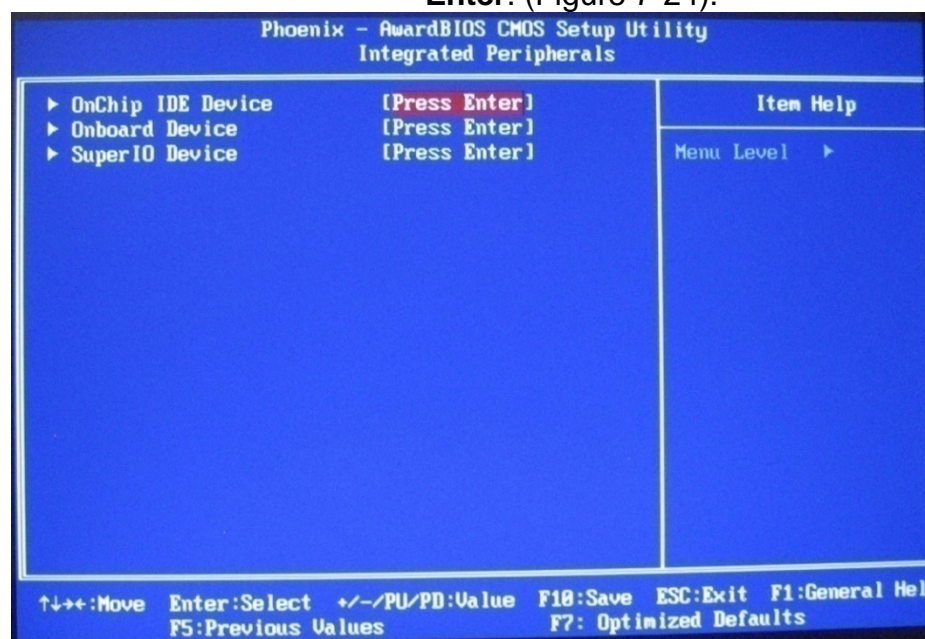

Figure 7-24 OnChip IDE Devices
14. No changes for **OnChip IDE Devices**. Press **Enter**. (Figure 7-24).